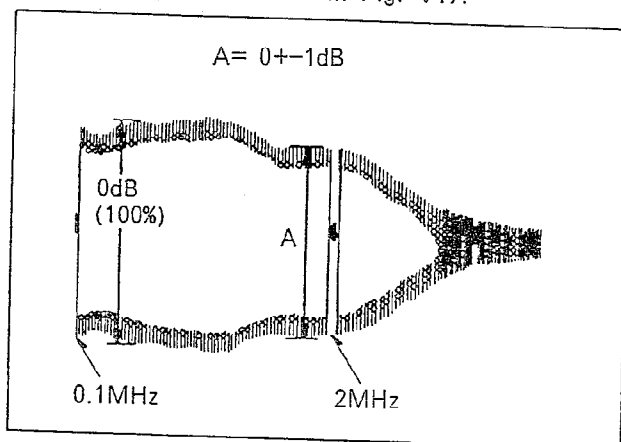

Fig. V17
- Adjust VR5002 so that so that level at 2MHz is within spec. as shown in Fig. V17.